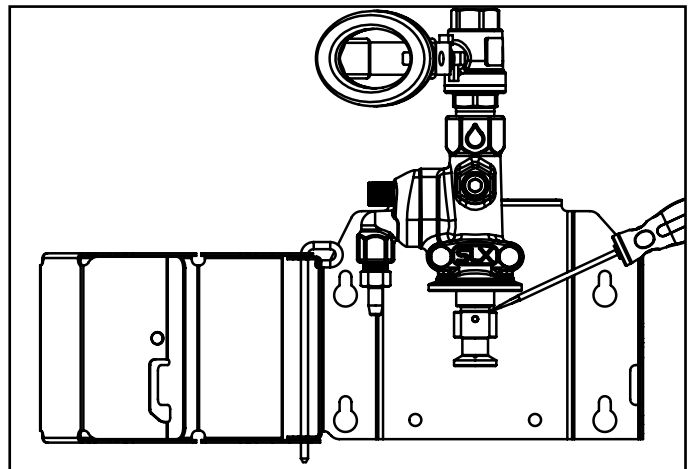

Fig. 8.2: Venturi insert removal using screwdriver
- A screwdriver can be used to pry the insert out if necessary. [Fig. 8.2]